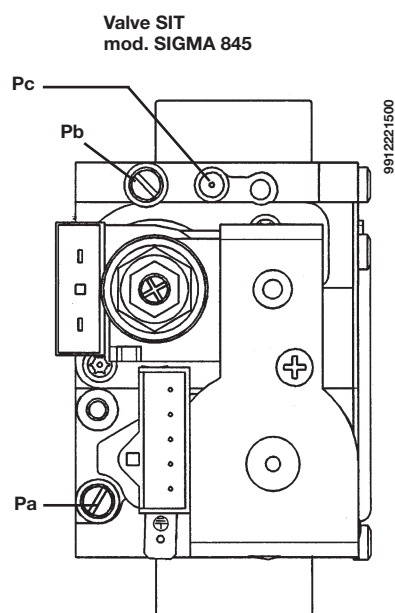
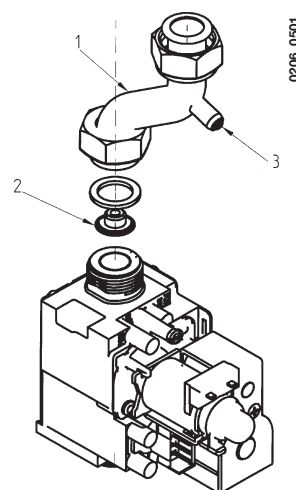

Figure 8a
Figure 8b
- remove the gas inlet hose (1 of Figure 8b);
- replace the diaphragm nozzle mounted on the gas valve (2);
- connect the positive pressure test point of a differential pressure gauge (possibly water-operated) to the gas valve pressure test point (**Pb**) (Figure 8a). For models 240 i use the pressure tap (3) in the gas inlet hose (figure 8b).
- check that the boiler feeding dynamic pressure, as measured at the inlet gas valve pressure test point (Pa) (Figure 8a) is correct (**30 mbar** for **butane** gas, **37 mbar** for **propane** gas or **20 mbar** for **methane** gas);